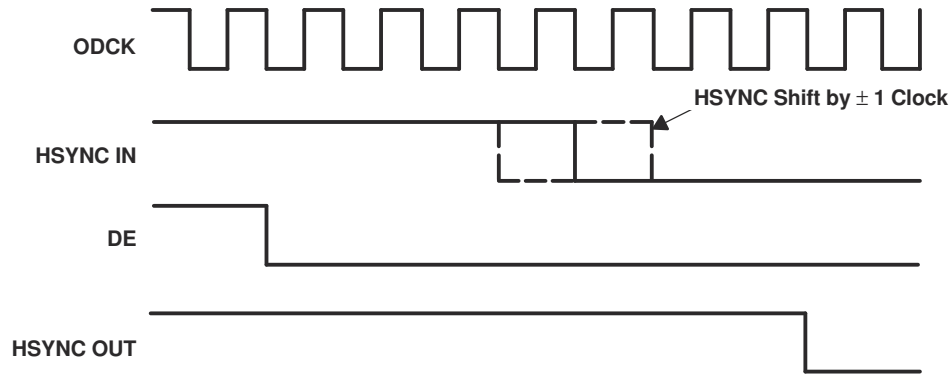

图 9-3. HSYNC Regeneration Timing Diagram
The TFP401A integrates HSYNC regeneration circuitry that provides a seamless interface to these noncompliant transmitters. The position of the data enable (DE) signal is always fixed in relation to data, irrespective of the location of HSYNC. The TFP401A receiver uses the DE and clock signals to recreate stable vertical and horizontal sync signals. The circuit filters the HSYNC output of the receiver, and HSYNC is shifted to the nearest eighth bit boundary, producing a stable output with respect to data, as shown in 图 9-3. This ensures accurate data synchronization at the input of the display timing controller.